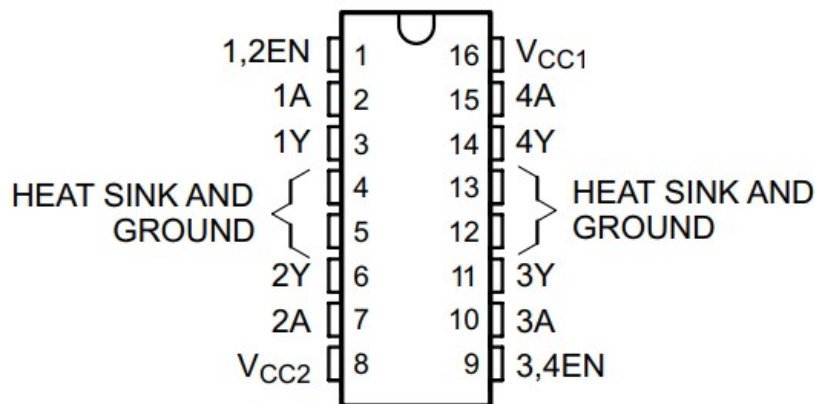

Figure 3. L293D H-bridge chip pinout.
2. To control your robot's motors, you will use the L293D H-bridge motor driver chip, included in your Bluebot kit. This chip allows you to control the speed and direction of two motors. Figure 3 shows the pinout from the chip's datasheet and Table 1 describes the functions of the pins. When one of the input pins ("A") for a motor is high and the other one is low, the motor will spin. Reversing which pin is high/low reverses the motor's direction (Table 2). If both input pins are high or both input pins are low, the motor will stop. Do not worry if that does not make sense yet. You will wire the circuit and see example code in the next few steps.